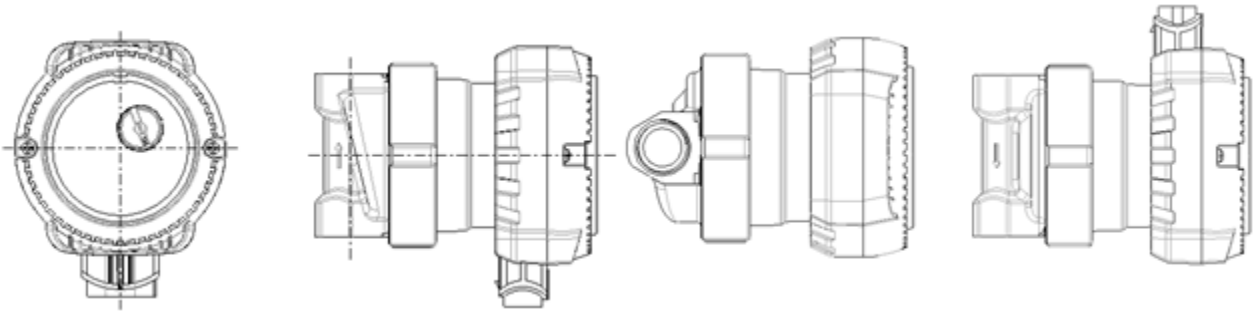

Fig. 3
- The pump should be installed so that the pump shaft is horizontal. See figure 3 below.
**NOTE** The motor housing should be installed so that the power cable comes out of the motor housing in an upward direction Fig. 3. Such an installation prevents water from entering the box in the event of a water leak. The room in which the pump will be installed must not be damp, remembering that even possible condensed water from the motor housing electrical box can flood the electrical connections leading to failure.